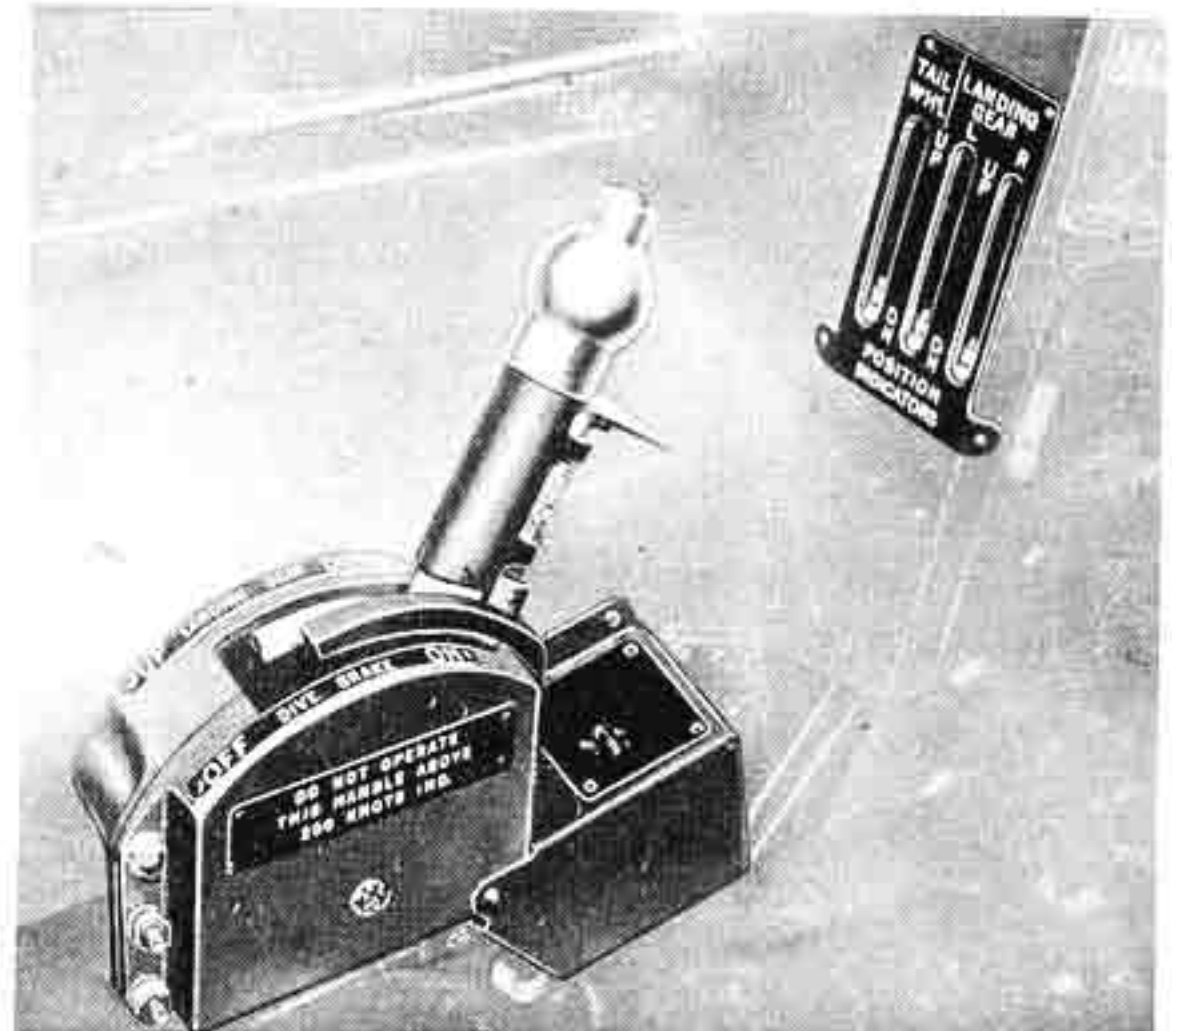

Figure 11—Landing Gear and Dive Brake Control
(4) DIVE BRAKE CONTROL.—The shift-type dive brake control is located on the left side of the cockpit (see figure 11). Moving the control to "ON" extends the main landing gear only, the tail wheel remaining retracted. Moving the dive brake control to "OFF" retracts the main landing gear. For dive brake flight restrictions see Section II, paragraphs 1.a. and 19.c.